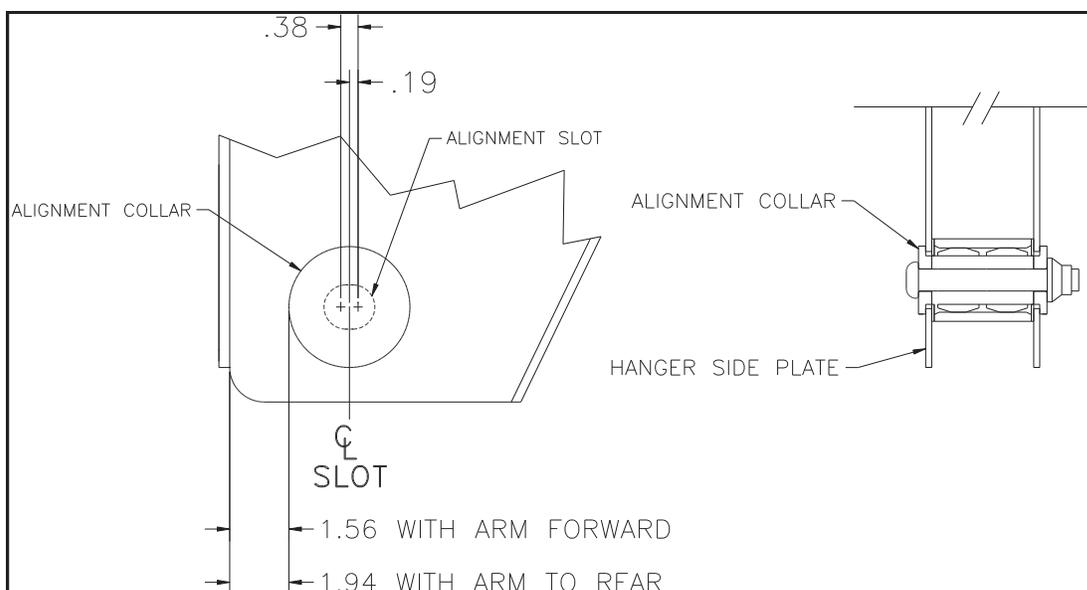

Figure 7-1
2. Position one beam of the auxiliary suspension so the alignment collar is in the center of the alignment slot and tack weld the alignment collar to frame bracket side plate. (See Figure 7-1)